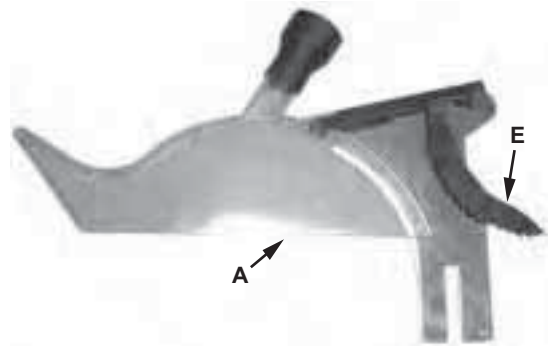

Figure 7
Referring to Figure 7:
1. Remove the *blade guard* and *pawl* (A, E, Fig. 7).